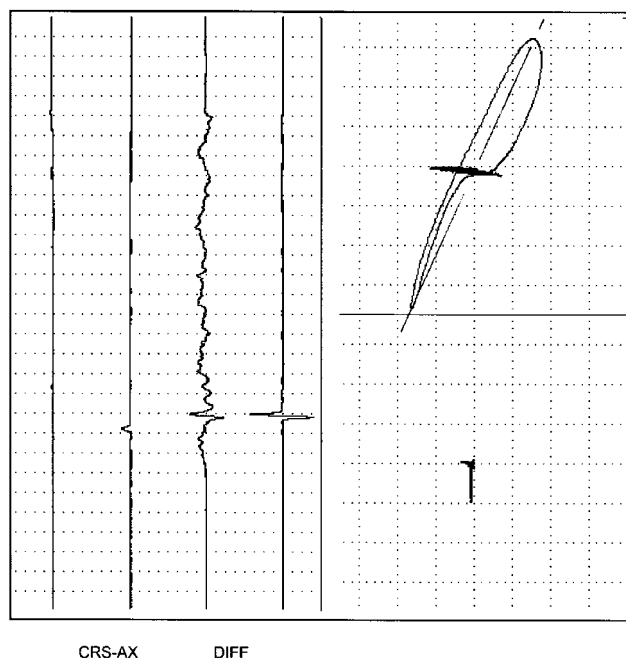

**Figure 6**
*When inspecting units containing these tubes you must prepare a "Phase Chart" and evaluate damage, if found, on the differential channel. Significant grooving at a baffle can appear minor. However, as can be seen in Figures 6 through 8 the damage can be quite significant. The tubes shown here are actual tubes removed from a failed unit. As can be seen the phase angles appear minor until compared to a phase chart. See Figure 9.*